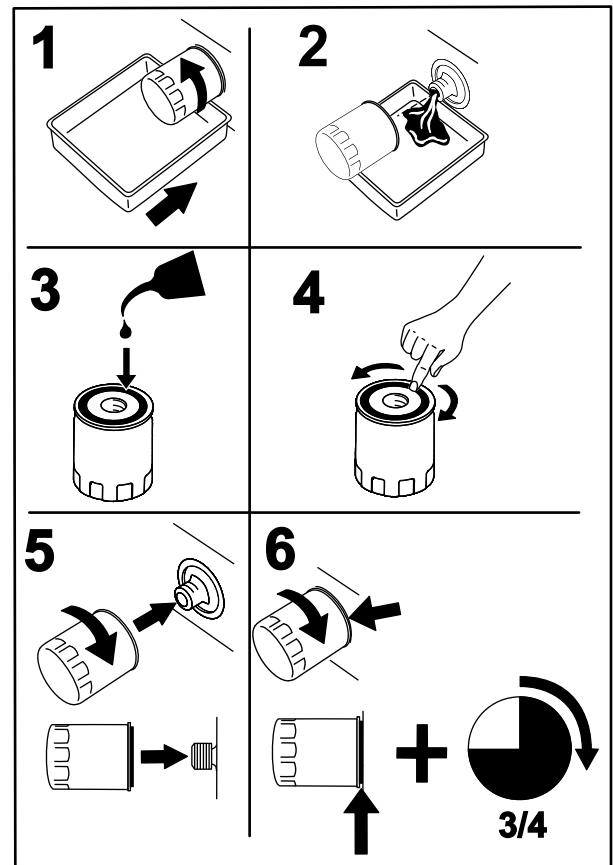

Figure 53
- Change the engine oil filter (Figure 53).